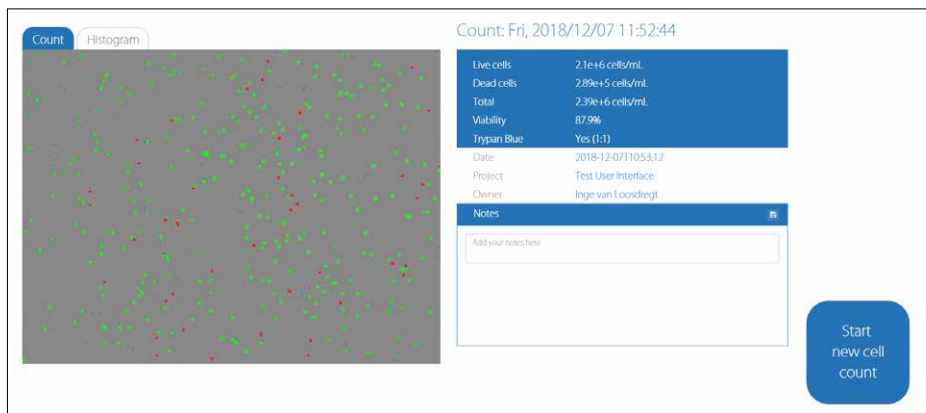

Figure 19. Overview of the result page
3. The CytoSMART™ application will now analyse the image and present the results. Within the analyzed image (Figure 19), you will see green and red circles (A). Green circles represent living cells, red circles are dead cells. Next to the image, the number of (live and dead) cells is displayed (B) together with experiment data (C).
4. In this window you can also add notes (D). These will be included in the CytoSMART Connect environment. You must click Save icon to save notes.
5. If you want to perform another cell count, simply press “Start new cell count” (E).